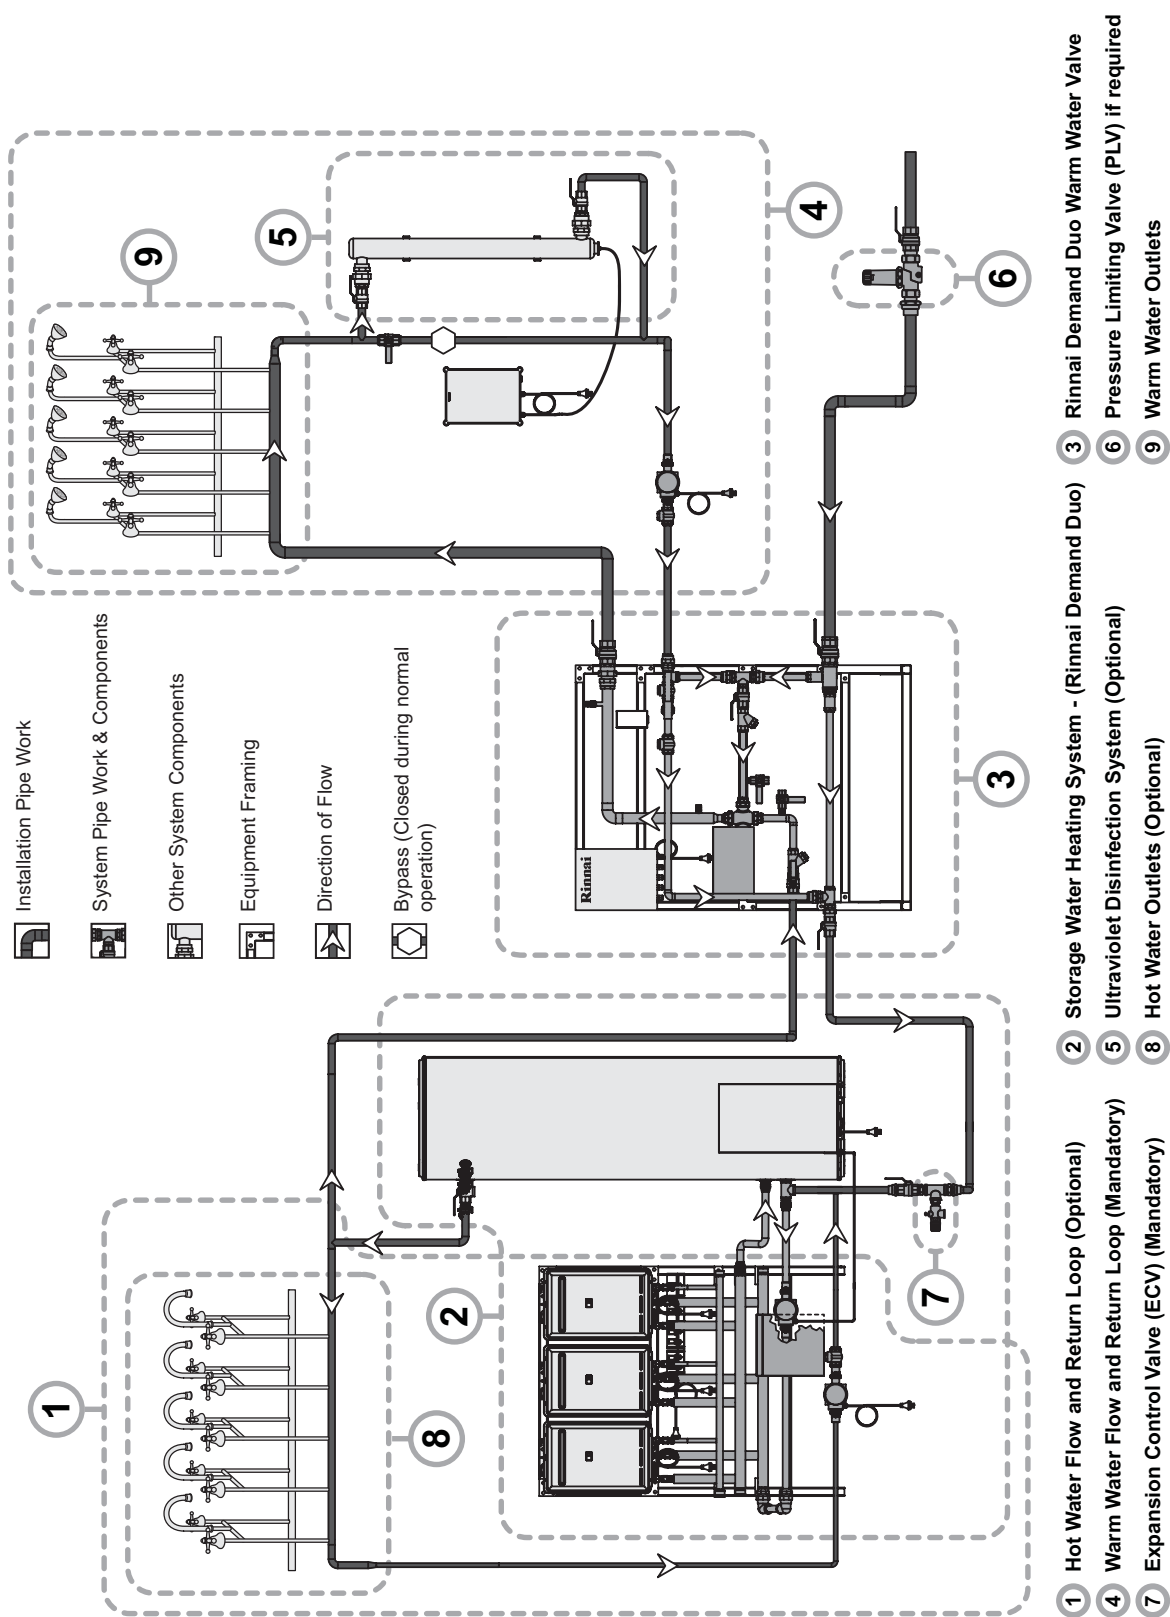
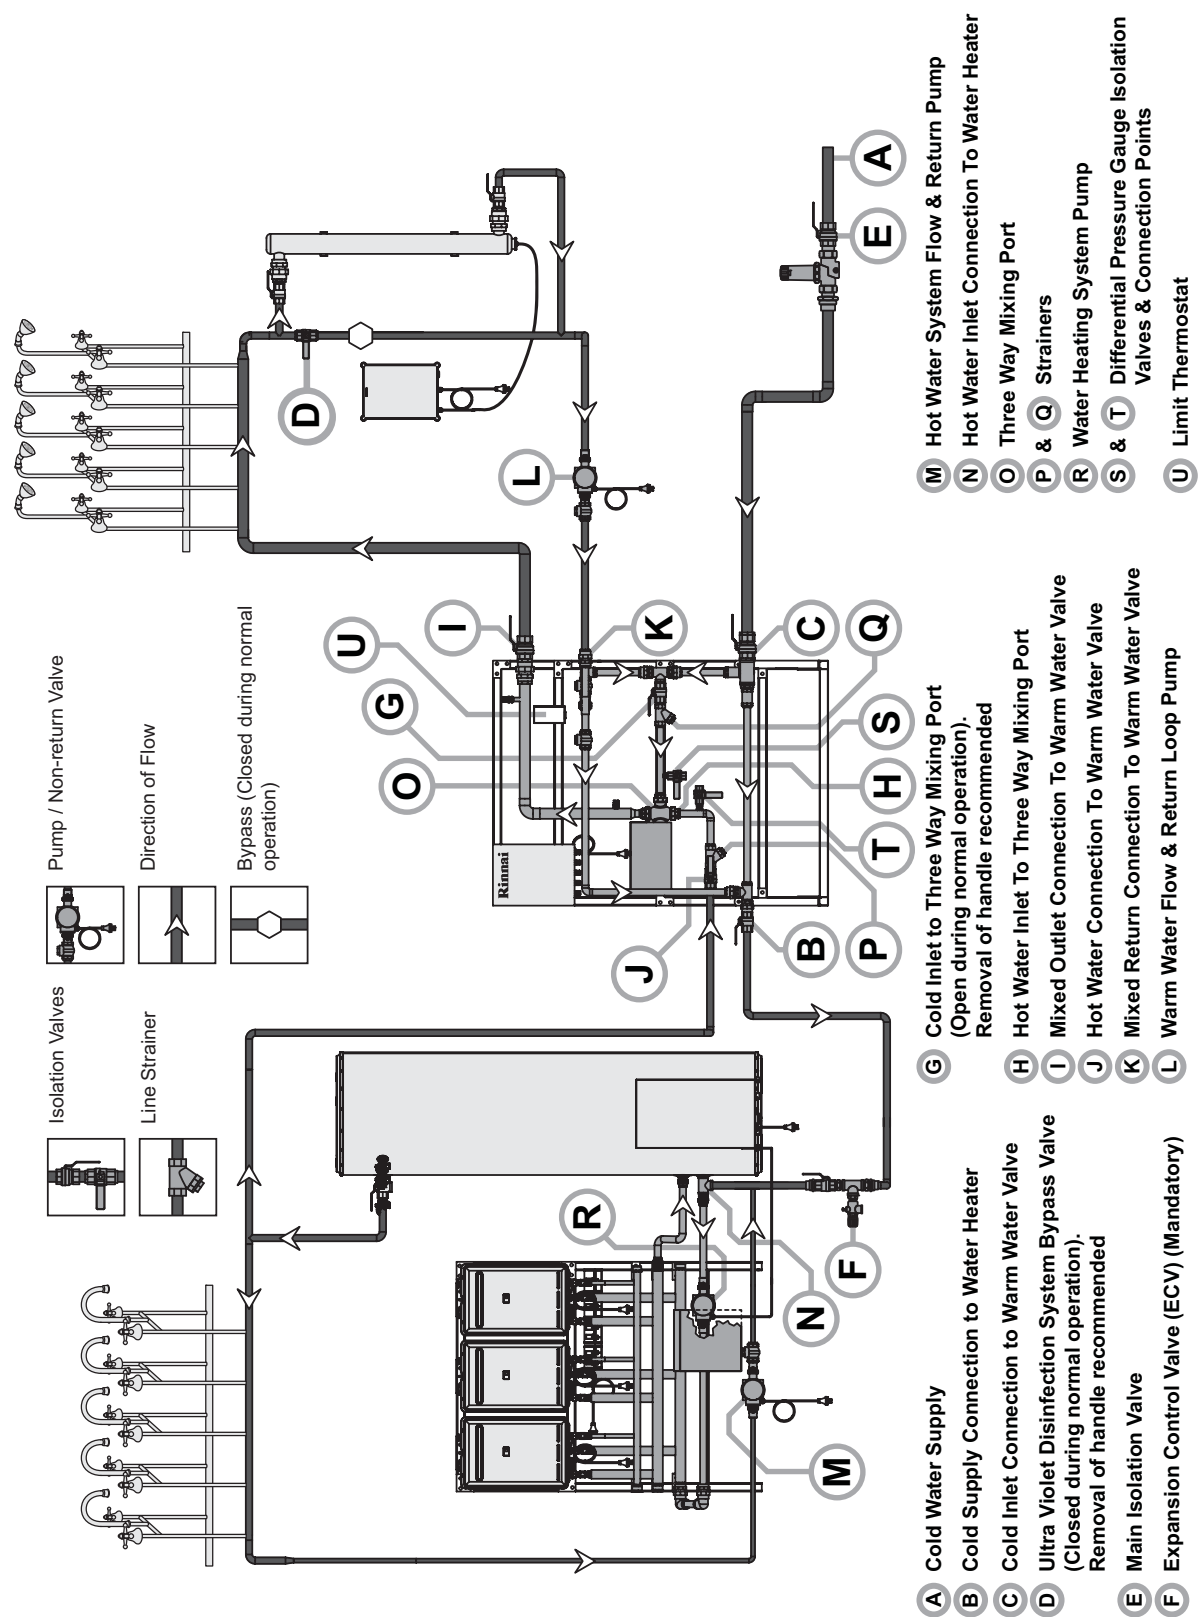

Figure 2 - Demand Duo Warm Water Valve - Typical Installation
Figure 3 - Demand Duo Water Valve Component Identification
Figures 2 and 3 show a typical installation of a Demand Duo warm water valve with a Demand Duo mains pressure gas storage water heating system and associated hot and warm water 'flow and return' loops and components. The system consists of the Demand Duo warm water valve ③, storage water heating system ②, flow and return system piping for warm water ④, flow and return piping for hot water (if required) ①, Ultraviolet disinfection system ⑤ (optional) interconnection piping and all associated fittings such as valves, unions and pumps.
4. The number and location of isolating valves in Figures 2 and 3 have been determined so servicing and system checking activities can be carried out efficiently and with minimal disruption.
To fill the system, follow the steps below (Refer to Figure 2 page 12 and Figure 3 page 13):